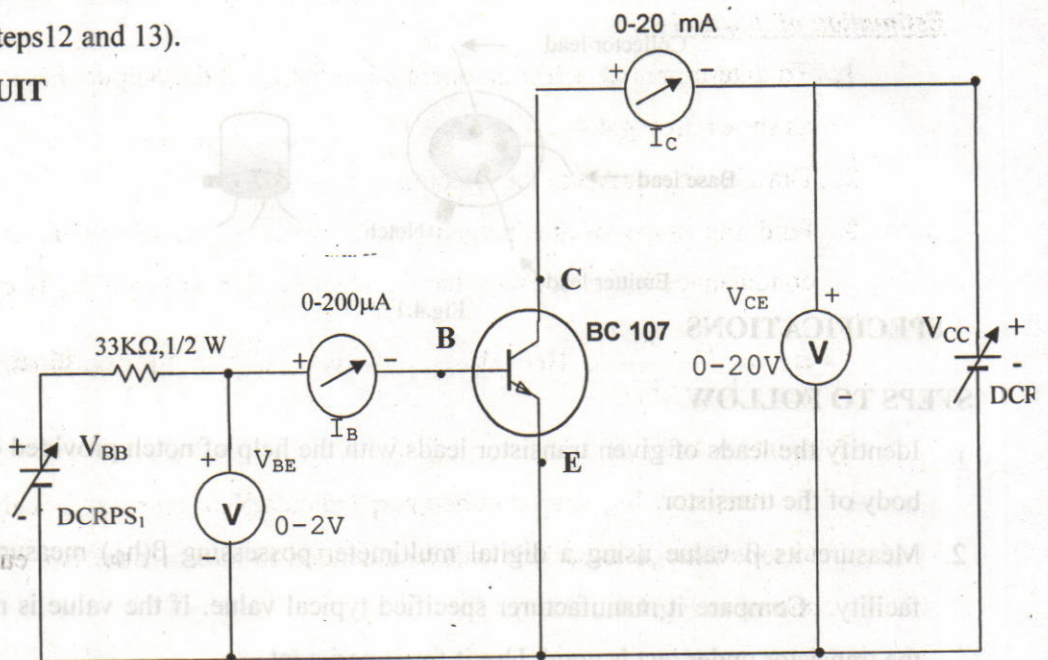

Fig.4.2
3. First observe input characteristics by connecting the circuit as shown in the Fig.4.2